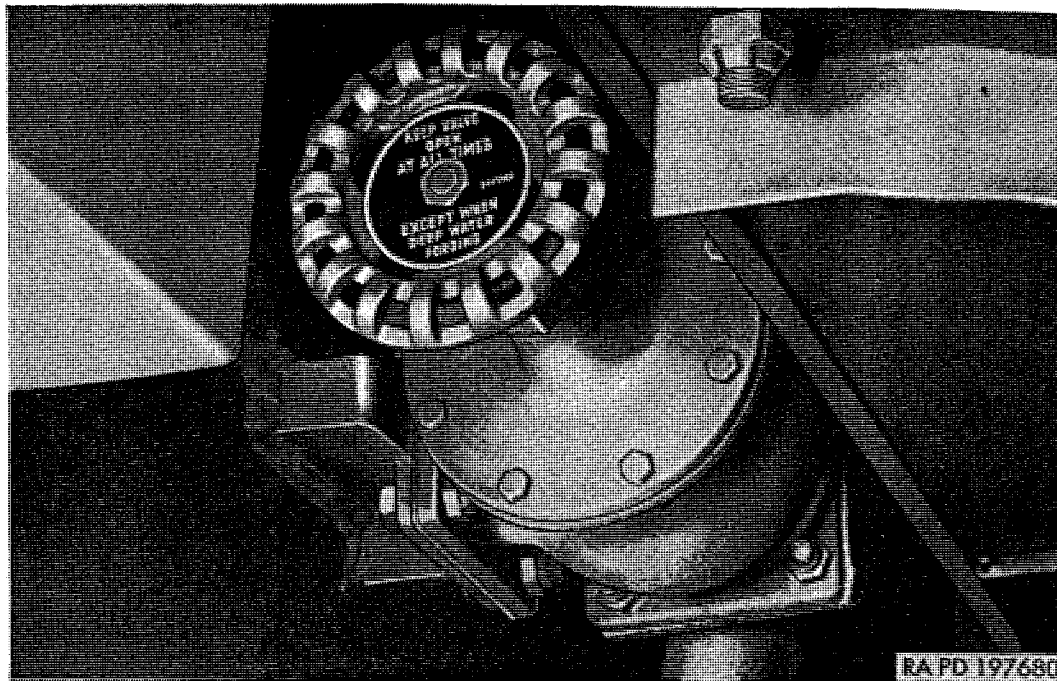

Figure 60. Heater gate valve.
- (4) *Heater gate valve instruction plate* (fig. 60). Instruction plate is mounted to gate valve handwheel. The plate instructs on the use of heater gate valve. The valve is located at lower front part of tank body between tank and cab, and is accessible from right side of vehicle.
- (2) *Heater gate valve* (fig. 60). The heater gate valve must remain open at all times except when fording in deep water as indicated on instruction plate attached to handwheel. Turn handwheel counterclockwise to open, and clockwise to close.
- (3) *Submersion type heaters.* Submersion-type heaters can be used in each tank compartment after large manhole cover at